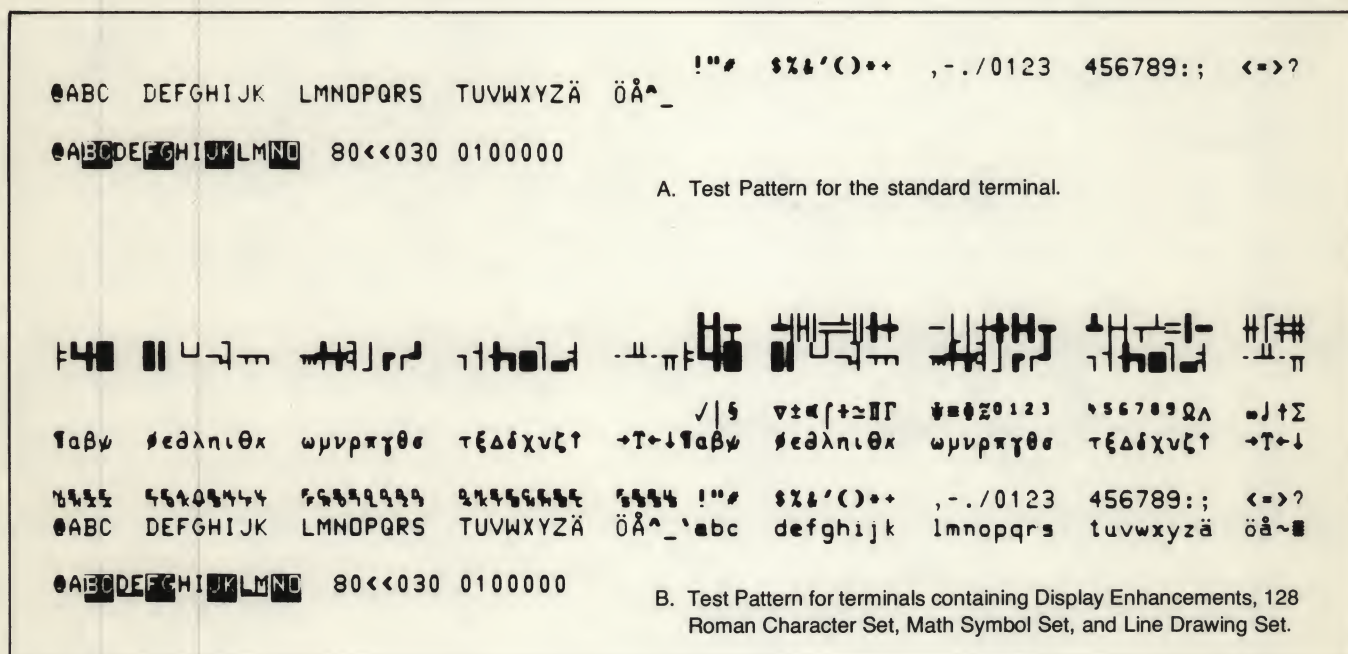

Figure 7-39. Basic Self-Test Patterns (HP 2645S)
- Basic self-test patterns for the HP 2645S are given in figure 7-39.